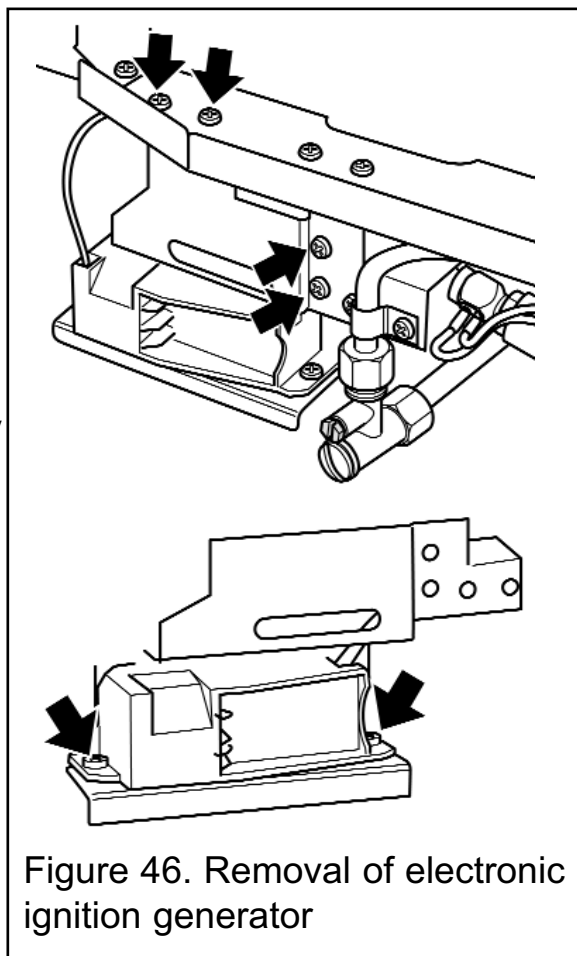

Figure 46. Removal of electronic ignition generator
5. Unscrew the four support bracket screws (See figure 46). The generator and its support bracket can now be moved forward. Be careful not to apply tension to the microswitch leads.
6. Remove the two fixing screws that attach the generator unit to the support bracket. The igniter generator can now be removed (See figure 46).